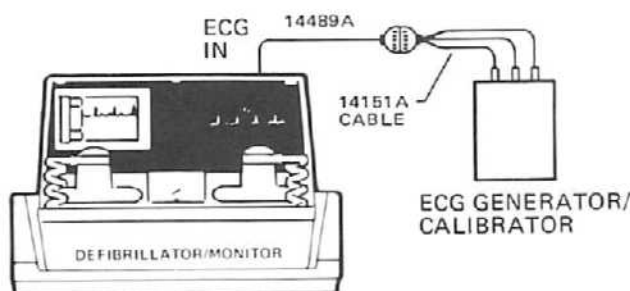

Figure 3-3. Heart Rate Accuracy and Alarm (78670A & 78671A—deleted on 78671A with Option A02).
1. Connect the test equipment as shown in Figure 3-3.